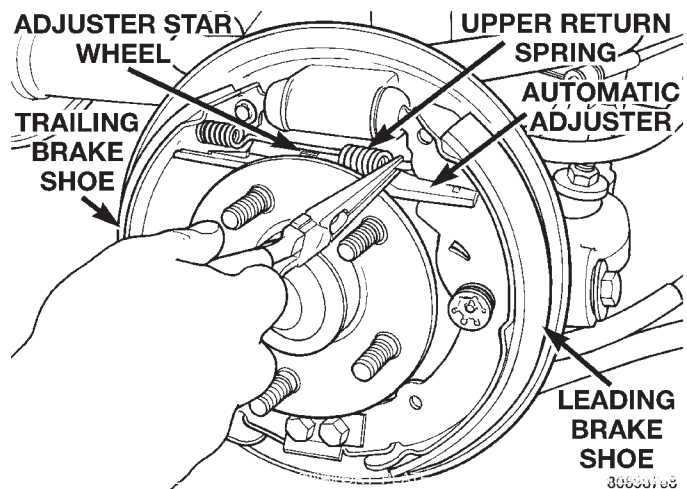

Fig. 61 Brake Shoe Upper Return Spring
- (5) Thread the automatic adjuster star wheel (Fig. 61) all the way into the adjuster, removing all tension from the adjuster. Then remove the upper return spring (Fig. 61) from the brake shoes.
(9) Install the upper return spring on the brake shoes (Fig. 61)